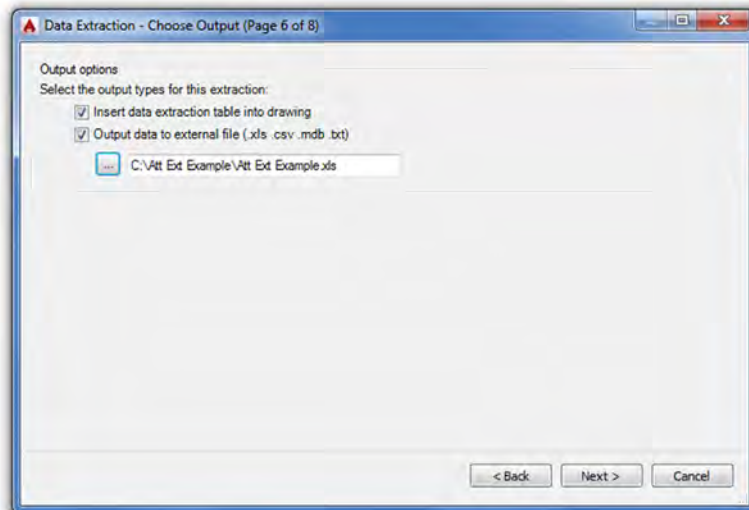

FIGURE 18.16
- Step (Page) 6.** Choose Output (Figure 18.16). Here, we are interested in our destination output. Although the Excel spreadsheet gets all the attention, you can also extract to a table that will be inserted into the drawing itself. Tables are first introduced in Chapter 15, so review that section, if necessary. Check off both boxes if you have not done so as yet, and finally select the location of the Excel file by using the three dot browse button. When ready, press Next>.